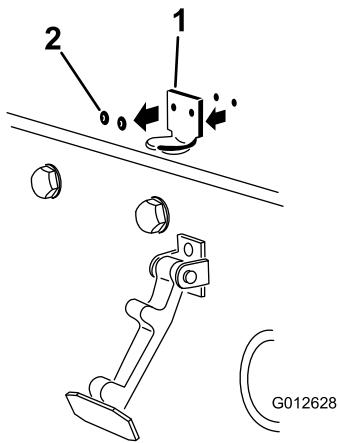

Figure 15
2. Remove the (2) rivets securing the hood-latch bracket to the hood (Figure 15) and remove the hood-latch bracket from the hood.